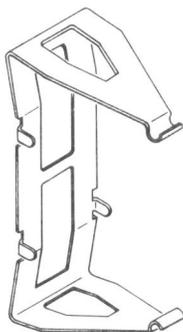

Fig. 4—4B Cover Clip
3.07 4B Cover Clip: (Fig. 4)—This clip is used to minimize displacement of operating cards, contact covers, and contact springs of wire spring relays during shipping and handling.